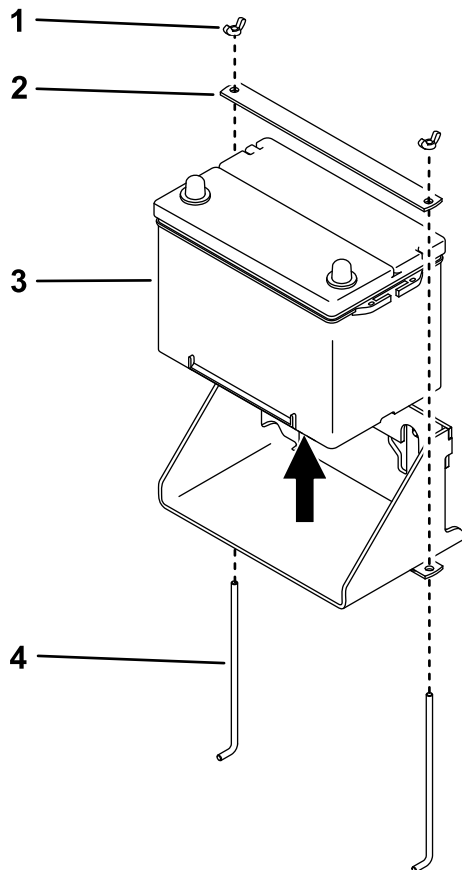

Figure 7
6. Remove and retain the 2 wing nuts. Remove and discard the strap and 2 hold-down rods (Figure 7).
1. Install the replacement battery using the strap and 2 hold-down rods from the kit and the 2 wing nuts that you removed previously as shown in Figure 7.